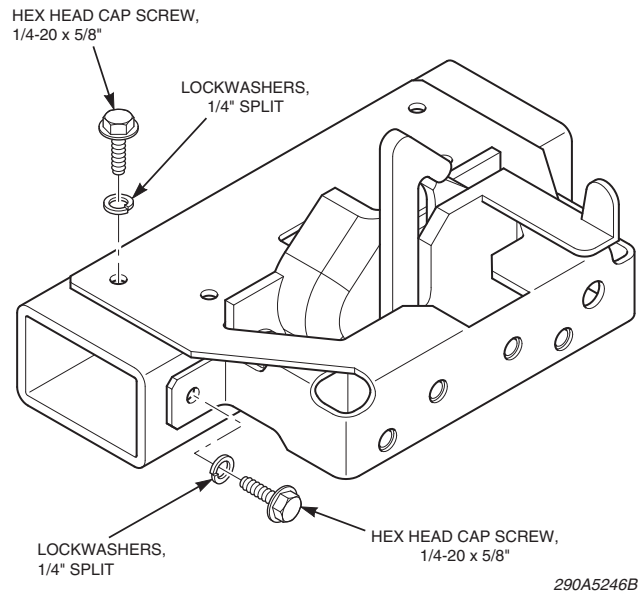

Figure 3: Securing the main bracket
- g. Secure the main bracket to the vehicle with the five 1/4" x 5/8" thread-forming screws and split lock-washers provided in the kit (*Figure 3* on page 5).